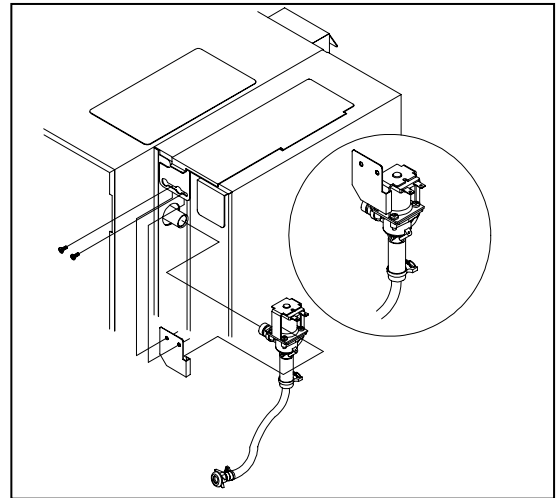

Figure 4 - Install the valve onto the "T" inside A.P.P. Inset shows valve plate already mounted.
5. Inside the A.P.P., install the new valve onto the "T" (figure 4).